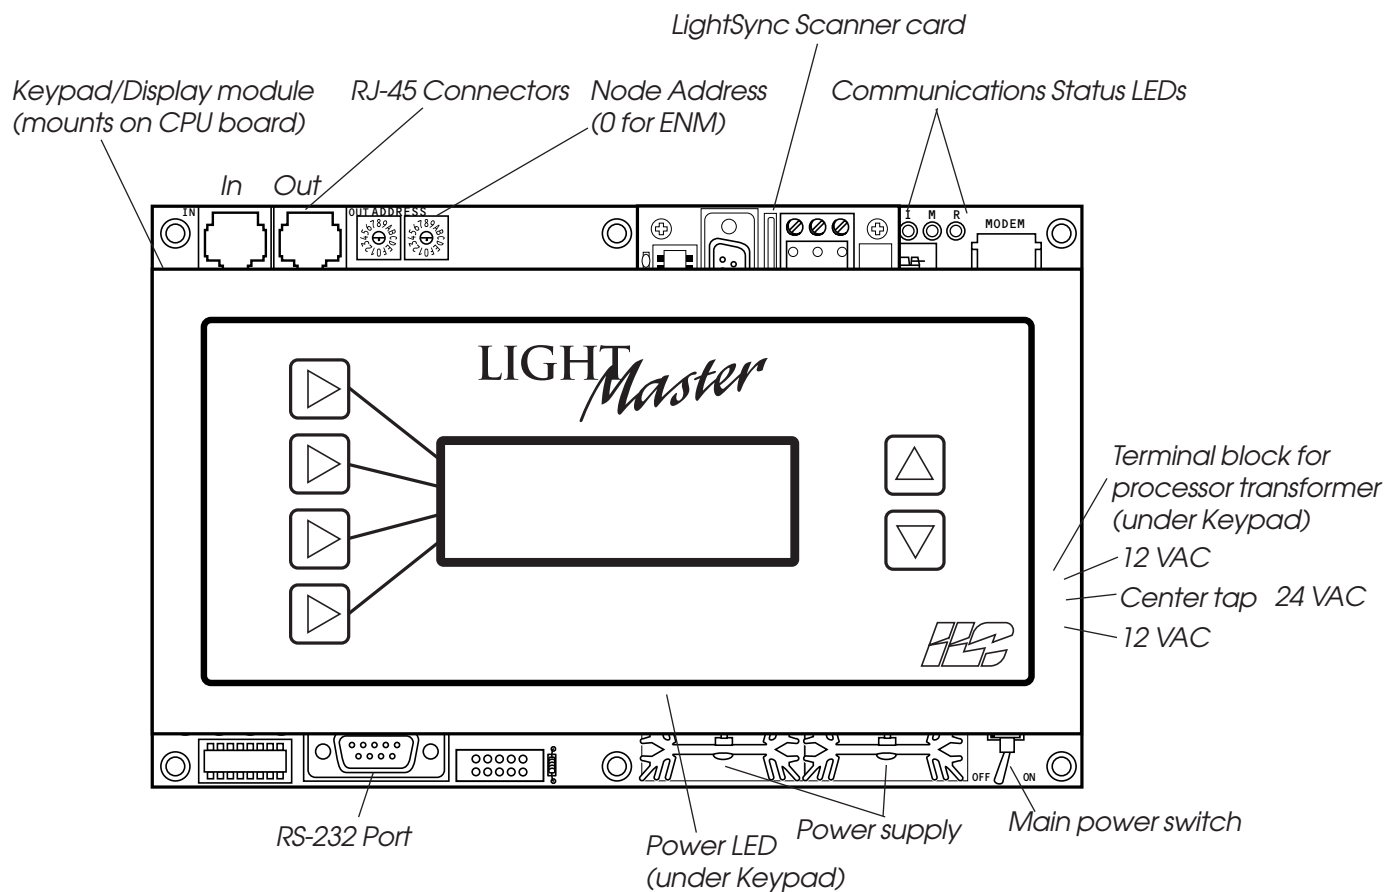

Figure 1.2 – CPU Board
1.1.3 CPU Board – (See Figure 1.2.) The CPU board provides the controller's intelligence and memory. Major components include: